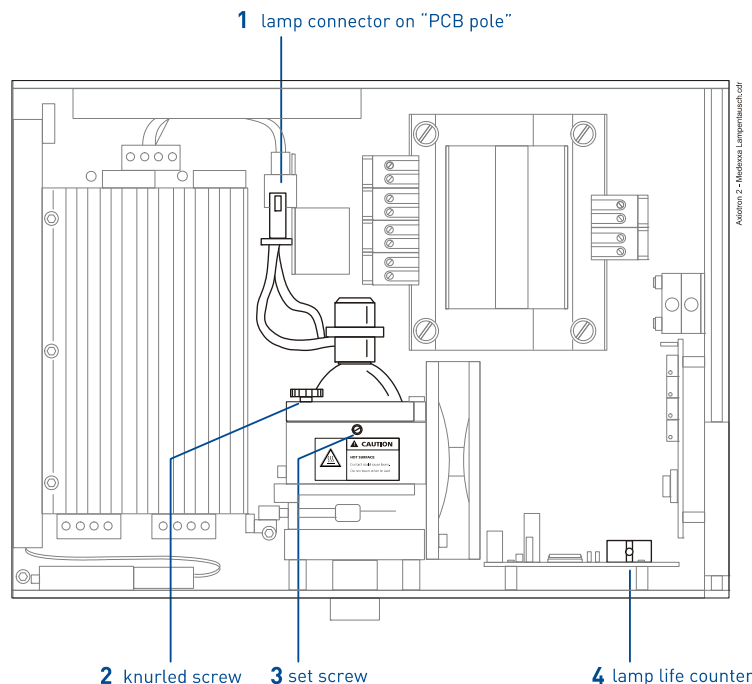

figure 50 Exchanging the illuminant in the Medexxa light generator
- Disconnect the illuminant. To do so, lift the connector of the PCB-style pole (1 in figure 50) and pull both ends apart. There are brackets that need to be pressed to allow disconnection.
- Slacken the tiny set screw (3 in figure 50) of the lamp holder a little (about one turn, anti-clockwise).
- Unscrew the knurled head screw (2 in figure 50) and unlock the lamp holder by opening the bracket.
- The lamp's operation time counter is re-set by pressing the red knob (4 in figure 50).